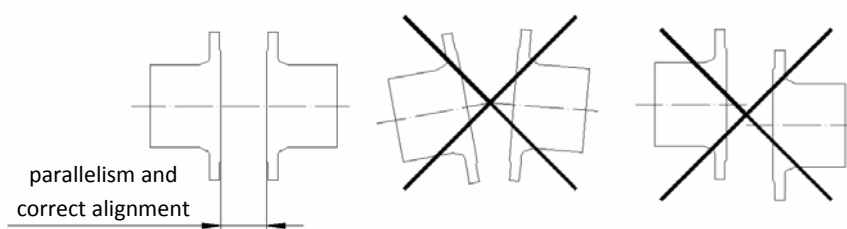

fig.2
- Special care must be taken to respect the correct distance between the flanges and ensure they are correctly aligned and parallel (fig. 2).